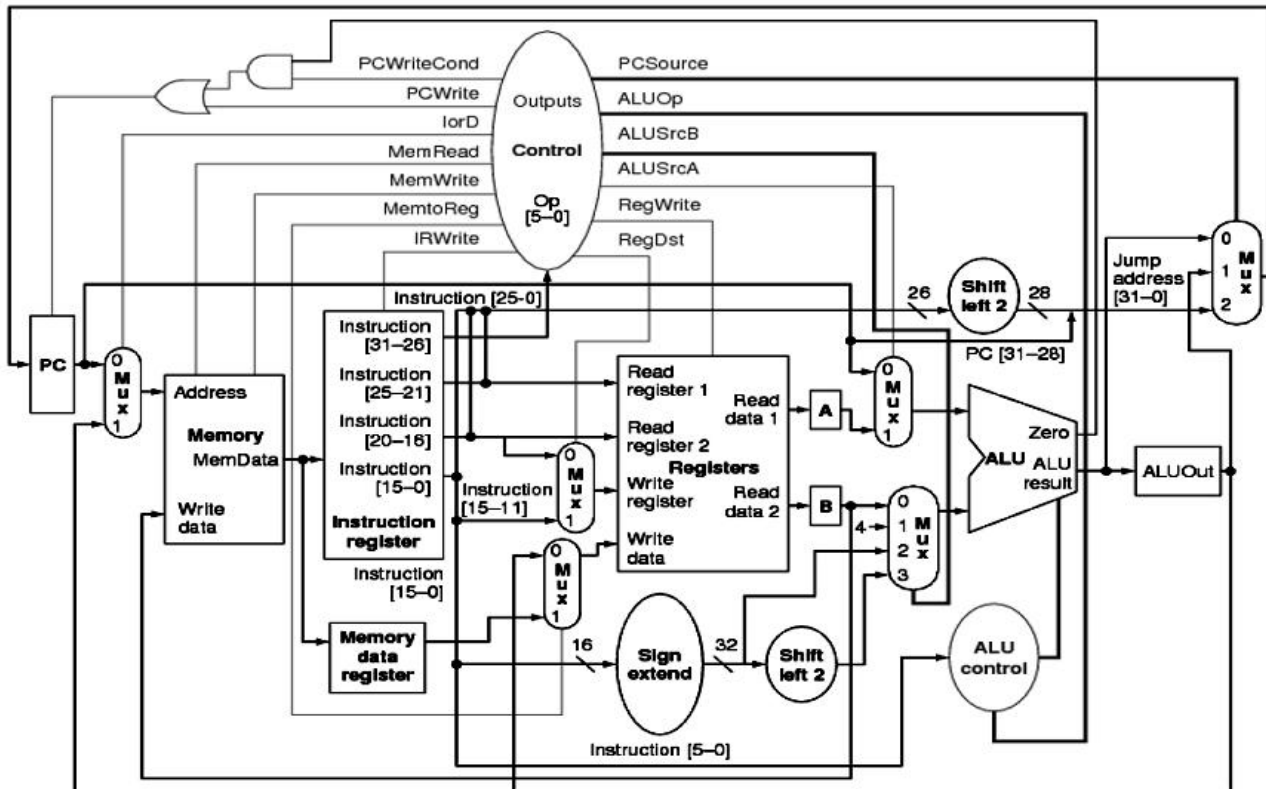

Figure Q7
- 7 For the MIPS multicycle datapath shown in Figure Q7, determine the functions of the ALU and the values of the control signals ALUSrcA, ALUSrcB, ALUOp, PCSource in all the clock cycles of a beq instruction. ALUOp = 00 for addition, and ALUOp = 01 for subtraction. 15